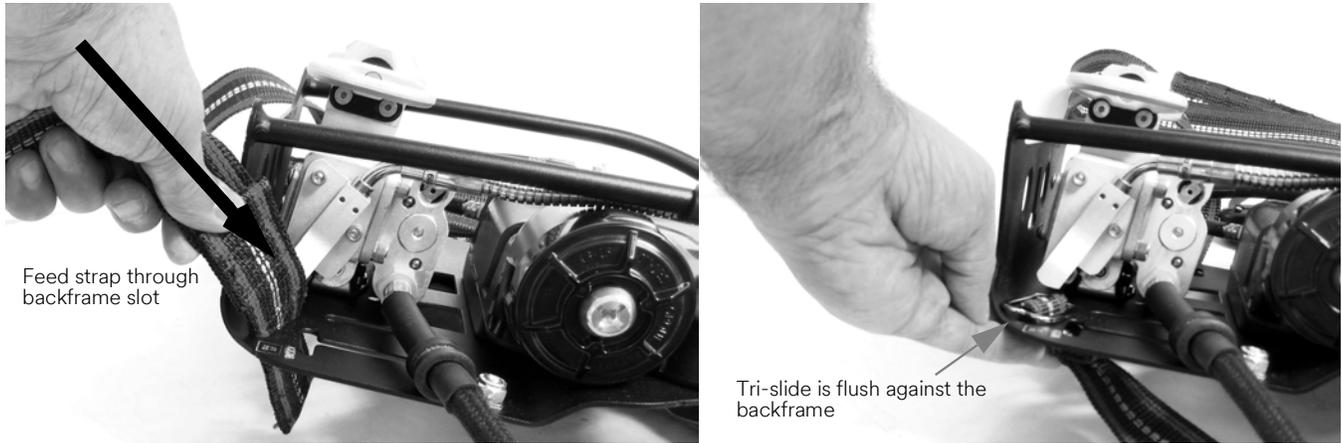

Figure 2-17 Feeding the waist-to-shoulder strap through the backframe slots.
- b With the sewn side facing up, feed the waist-to-shoulder strap through the backframe slot (starting front to back) until the tri-slide is flush against the backframe. See Figure 2-17.